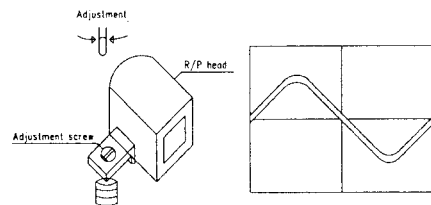

Fig.1-10 Azimuth speed adjustment
- 1) Connect the equipments as per Fig.1-10 to adjust the tape azimuth with test tape (recorded at 6.3KHz : MTT-113N)
- 3) Adjust the azimuth adjustment screw of left side of record/play head for maximum output and for the same channel phase.(see Fig.1-10)